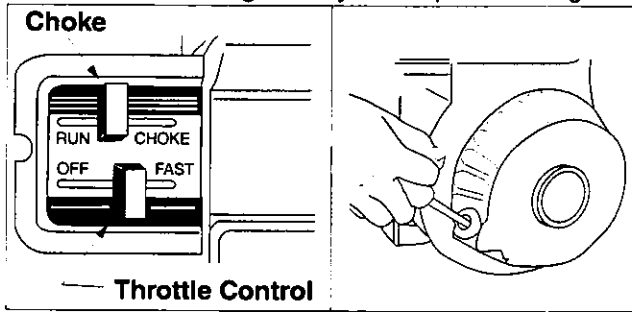

Figure 16
The throttle control lever is located on the engine. It controls the engine speed and stops the engine. See Figure 16.
The choke lever is located above the throttle. It is used to enrich the fuel mixture in the carburetor when starting a cold engine. Figure 16.
2. Place the throttle control lever in FAST position. See Figure 16.